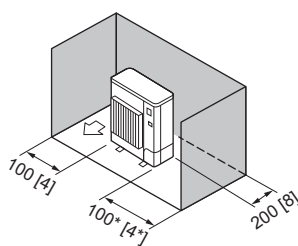

Fig. 2-8
- Obstacles at rear and sides only (Fig. 2-8)